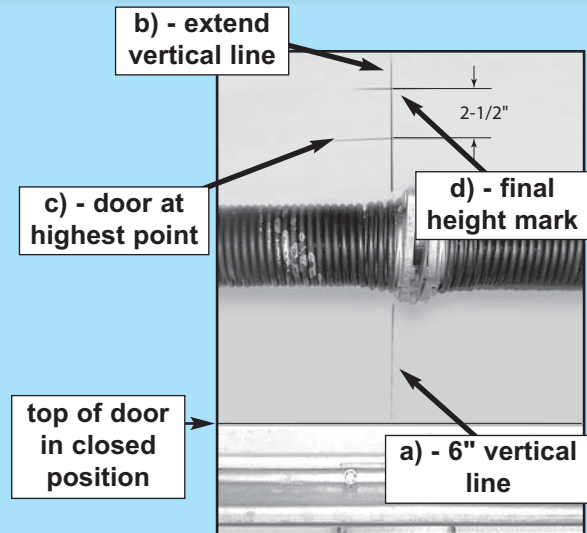

FIG. 2-1 Final height mark.
- b) Continue this line on wall above door for about 12" (**Fig. 2-1, a**).
- Mark height measurement on wall above door (**Fig. 2-1, c**).
- Add 2-1/2" to height mark just made on wall. This is location for header bracket (**Fig. 2-1, d**).